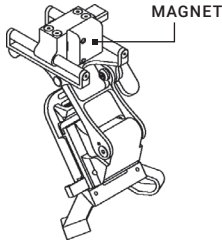

FIGURE 2-10. LOCATING THE MAGNET
- If the magnet is not removed, contact Customer Support for instructions on returning the metal helmet mount for magnet removal. Figure 2-10 shows the location of the magnet.